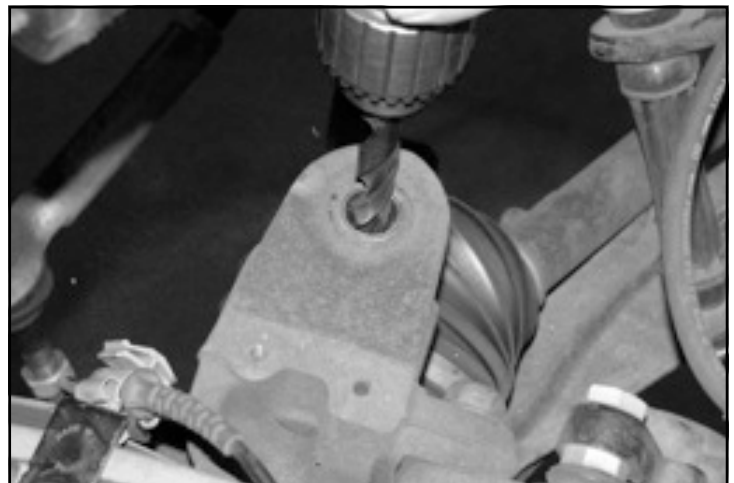

FIGURE 28 - STEP 29
29. Using a 1/2" drill, chase out the end of the upper ball joint taper on the spindle. **SEE FIGURE 28**